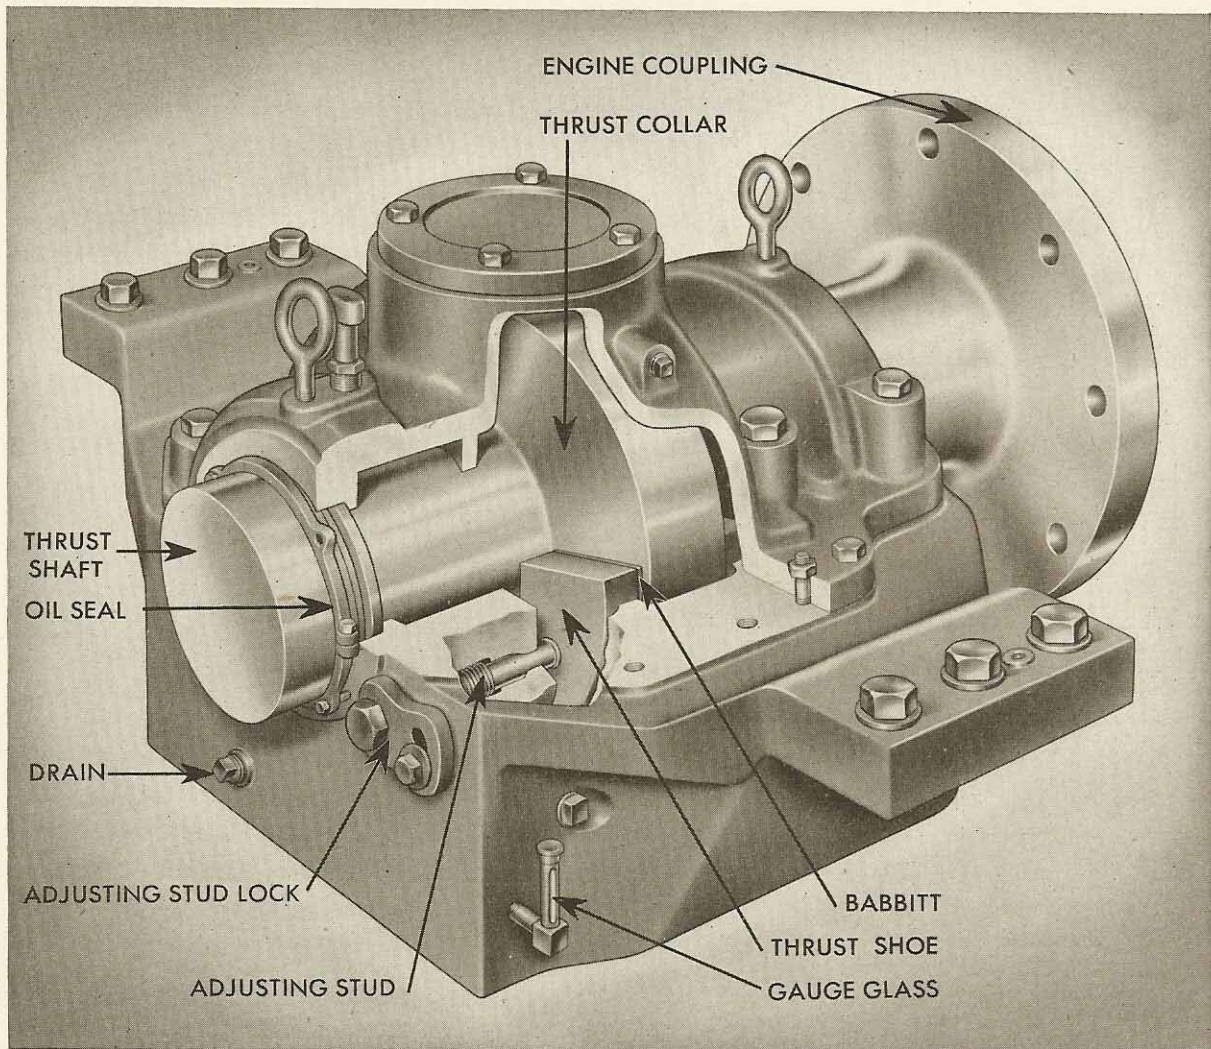

FIGURE 2-12
21. THRUST-BEARING LUBRICATION: Figure 2-12 shows the Kingsbury Thrust Bearing which operates within a housing and is lubricated from an oil supply in the base of the housing. The oil level should be carried high enough to cover the lower part of the thrust collar, but not high enough to touch the thrust shaft. A gauge glass at the side of the housing indicates the oil level; if oil shows in the gauge glass there is enough oil in the housing. The collar rotates in the oil bath, picks up the oil and carries it up to a scraper that wipes the oil from the collar and directs it to the faces of the collar and fore and aft sets of thrust shoes.